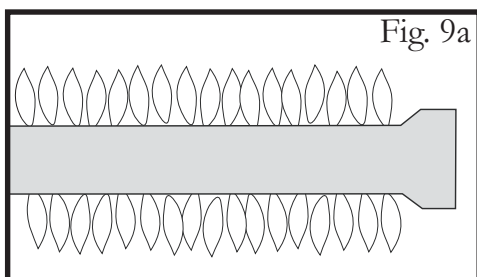

Fig. 9a
6. Confirm that the burner is properly lit and that the flame pattern is as desired, (see Figs. 9a, 9b & 9c, for the proper flame patterns). If the flame pattern is other than normal, consult the Troubleshooting Guide on Page 23 for corrective action.
- **WARNING:** IF THE ROTISSERIE BURNER DOES NOT LIGHT, immediately turn the burner control knob to the OFF position, to prevent gas buildup. Wait five (5) minutes for the gas to clear and then repeat the preceding starting procedure. If the burner will not light when using the Igniter, follow the match lighting instructions below.
6. Confirm that the burner is properly lit and that the flame pattern is as desired, (see Figs. 9a, 9b & 9c, for the proper flame patterns). If the flame pattern is other than normal, consult the Troubleshooting Guide on Page 22 for corrective action.